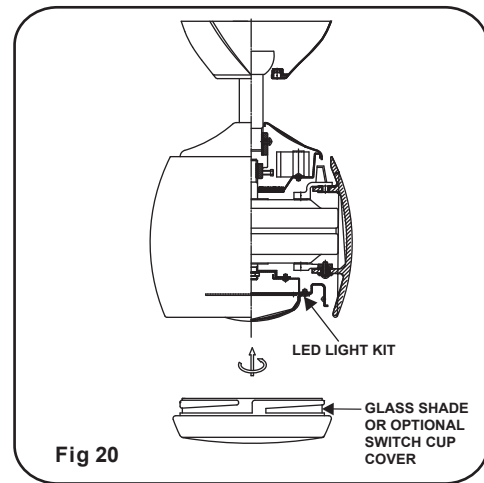

Fig 20
Step 1. Raise the glass shade or optional switch cup cover up against the LED light kit and secure it to the fan by turning glass shade clockwise until snug. **DO NOT OVERTIGHTEN.** (Fig. 20)